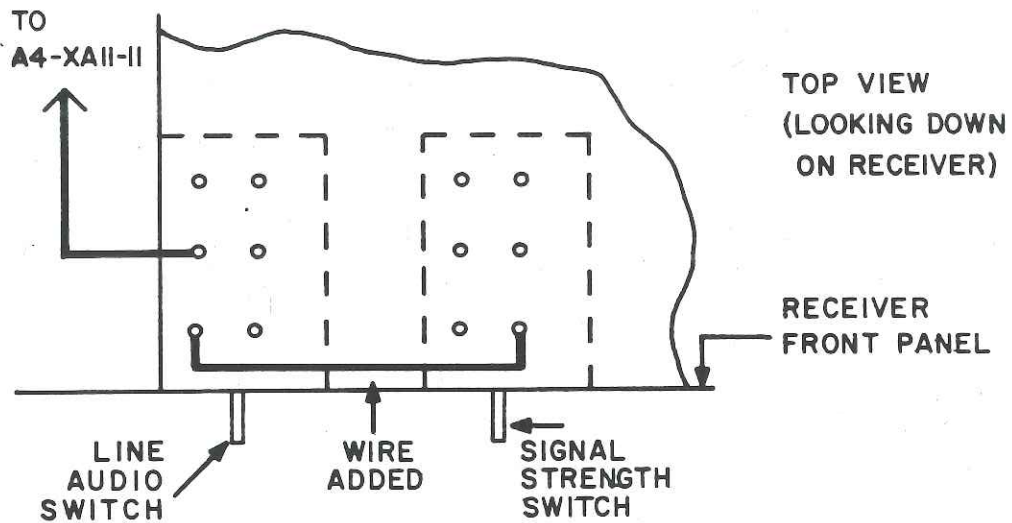
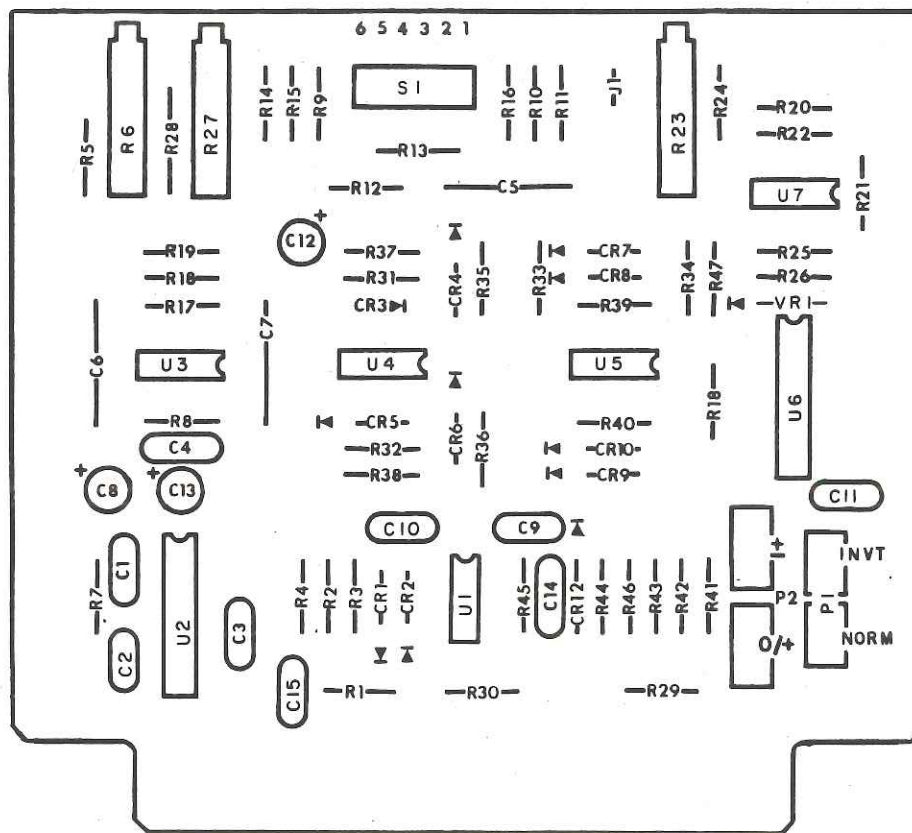

Figure 1-1. FSK Meter Modification
Figure 1-3. FSK Demodulator Parts Location
4. Run an insulated wire from A4XA11-11 to the front panel Line Audio Level switch as shown in Figure 1-1. Run a short piece of insulated wire from the Line Audio Level Switch to the Signal Strength Switch as shown in Figure 1-1. Solder all wires to the pins shown in Figure 1-1.
Refer to **Figure 1-1**, FSK Demodulator Simplified Block Diagram and **Figure 1-3**, FSK Demodulator Schematic as an aid in understanding the operation of the FSK Demodulator Option board.